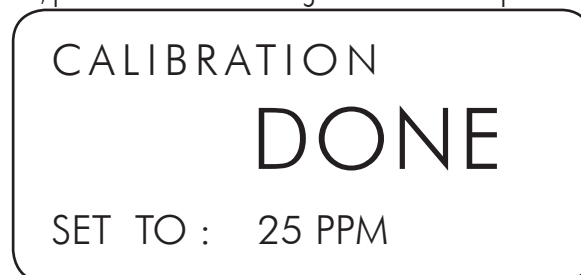

Figure 24
6. Successful calibration will display 'Calibration Done' on the local, digital display (see Figure 24).